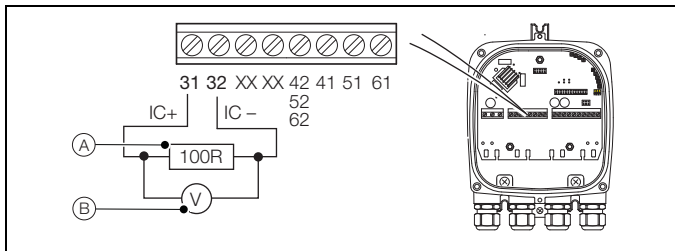

Fig. 3.10 Current Output Calibration Check
2. Referring to Fig. 3.10:
- b. Connect a precision resistor (tolerance better than 0.05 %) (A) across current output terminals 31 (IC+) and 32 (IC-).
4. In the 'Resistance Value' field (C), type the value of resistor (A) (from Fig. 3.10, page 23).
5. Click 'Apply' (D).